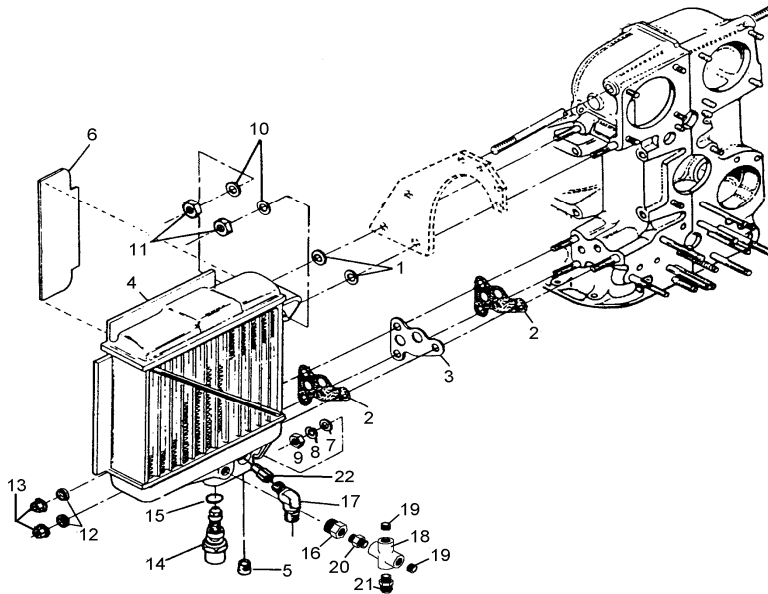

Figure 1 Oil Cooler and Associated Parts
**Removal and installation of the vernatherm control valve Corvalis 300, 350 (See Figure 1)**
**Removal and Installation of the oil cooler and Vernatherm valve Corvalis 400 (See Figure 1)**
3. Remove the flanged nuts (Figure 12-18 in TCM Maintenance Manual M-18 and Figure 1 following) (13) and lock washers (12) from the lower front crankcase studs. Discard the lock washers (12). Remove the oil cooler (3) from the crankcase studs.
4. Remove the nut (9) lock washer (8) and washer (7) from the lower rear studs. Discard the lock washer (8).
5. Remove the nut (11) washer (10) and gaskets (1) from the upper studs.
6. Remove the oil cooler (4) from the crankcase.
8. Remove the gaskets (2), spacer (3), and baffle (6).
9. Discard the gaskets and spacer (2), (3).
10. Remove the reducer (16), elbow (17), tee (18), cap (19), fitting (20), and adapter (21).
11. Remove the vernatherm control valve (14) and gasket (15)